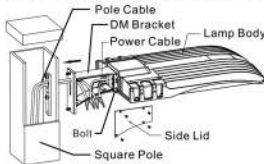

Figure 3-1
- 1: Open the side lid of direct bracket, let the power cable go through the direct bracket. Fix the direct bracket to the end of lamp body with bolt. Let the pole cable go through the direct bracket. (Figure 3-1)